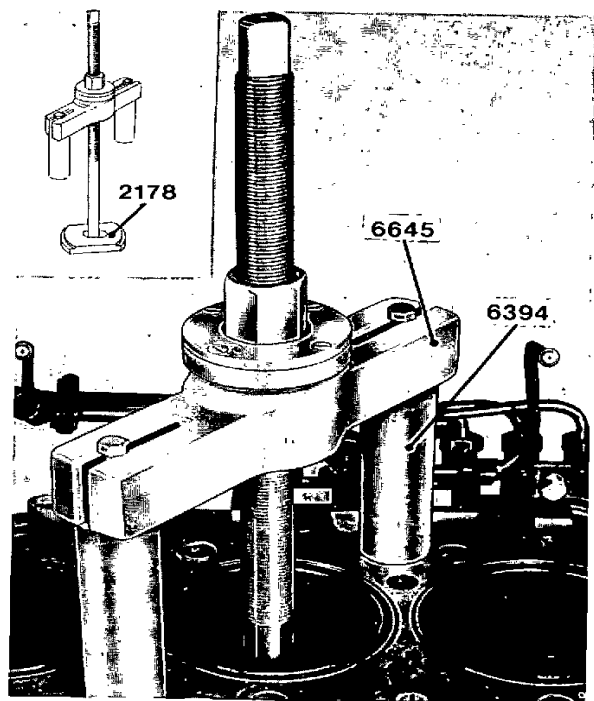

Fig. 64. Removing a cylinder liner, 70 series
5. Remove the cylinder liners. Use puller 6645, supports 6394 (2 pcs) together with the puller plate 6087 for the 60 series, or 2178 for the 70 series. See fig. 64. Remove the sealing rings.